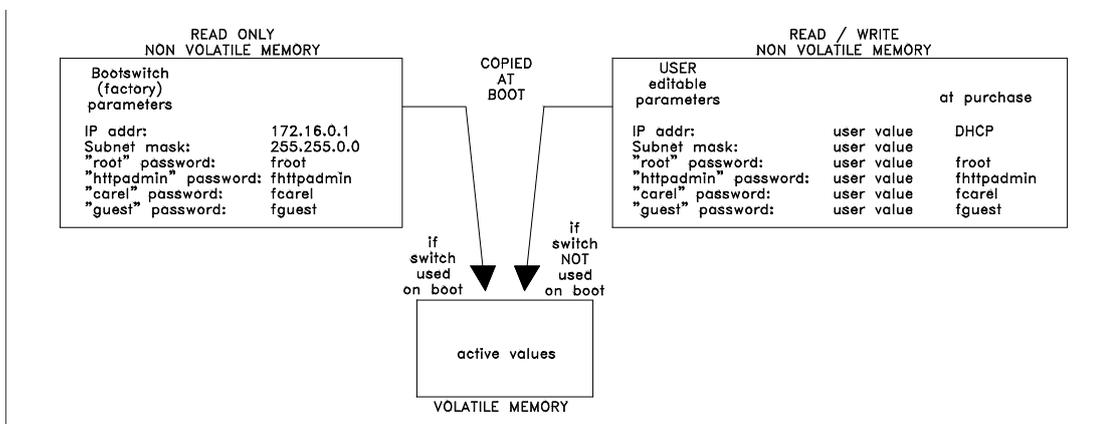

Figure 3.g - Operation of the "Bootswitch parameters" and of the user parameters.
- NOTE 1 These values remain active until *pCOWeb* IS RESTARTED (see Figure 3.g below). When next rebooted, if the button is NOT pressed, *pCOWeb* will return to the "User" configuration (see chapter 8 on page 39).